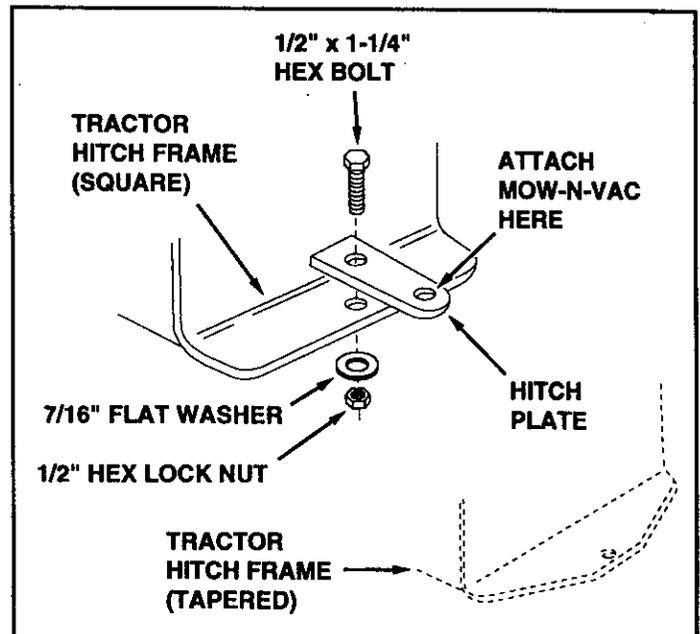

FIGURE 27
- b. Your tractor has a lightweight hitch frame that needs reinforcing for towing the Mow-N-Vac. Use a 1/2" x 1-1/4" hex bolt, a 7/16" flat washer and a 1/2" hex lock nut. See figure 27.